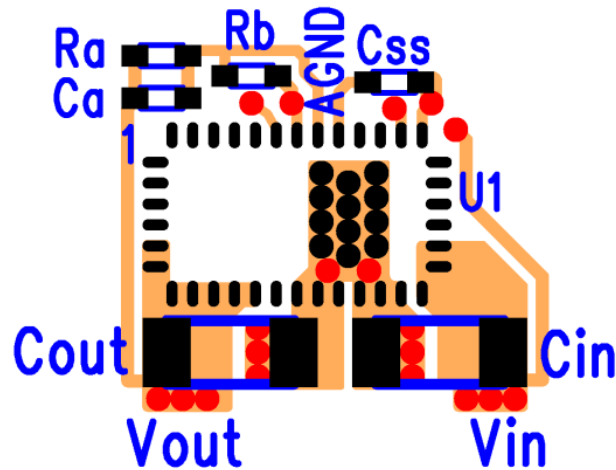

Figure 6. Optimized Layout Recommendations
Figure 6 shows critical components and layer 1 traces of a recommended minimum footprint EN5337QI layout. Alternate ENABLE configurations and other small signal pins need to be connected and routed according to specific customer application. Please see the Gerber files on the Intel website [www.intel.com/enpirion](http://www.intel.com/enpirion) for exact dimensions and other layers. Please refer to Figure 6 while reading the layout recommendations in this section.
**Recommendation 9:** Keep  $R_A$ ,  $C_A$ , and  $R_B$  close to the VFB pin (see Figures 6 and 7). The VFB pin is a high-impedance, sensitive node. Keep the trace to this pin as short as possible. Whenever possible, connect  $R_B$  directly to the AGND pin instead of going through the GND plane.
Only the large thermal pad and the perimeter pads are to be mechanically or electrically connected to the PC board. The PCB top layer under the EN5337QI should be clear of any metal except for the large thermal pad. The “grayed-out” area in Figure 7 represents the area that should be clear of any metal (traces, vias, or planes), on the top layer of the PCB. Figure 6 shows the recommended PCB footprint for this device.